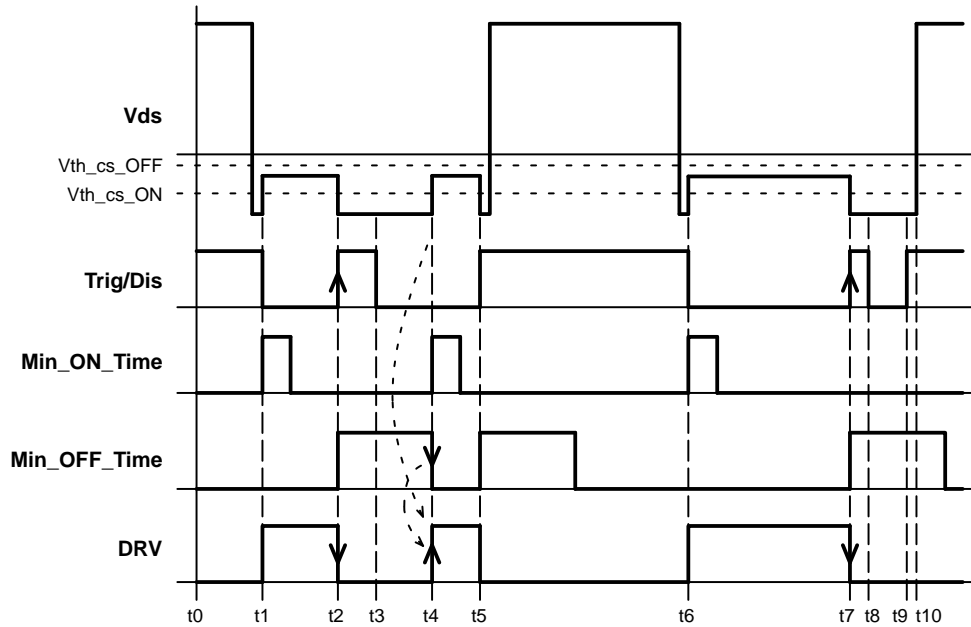

Figure 58. IC Behavior when Multiple Trigger Pulses Appear on Trigger Input
Figure 58 shows IC behavior in case the trigger signal features two pulses during one cycle of the  $V_{ds}$  (CS) signal. Trigger enables driver at time t1 and DRV turns ON because the  $V_{ds}$  voltage is under  $V_{th\_cs\_ON}$  threshold voltage. The trigger signal and consequently DRV output fall down in time t2. The minimum OFF time generator is triggered in time t2. Trigger drops down to LOW level in time t3 but there is still minimum OFF time sequence present so the DRV output stays low. When the minimum OFF time